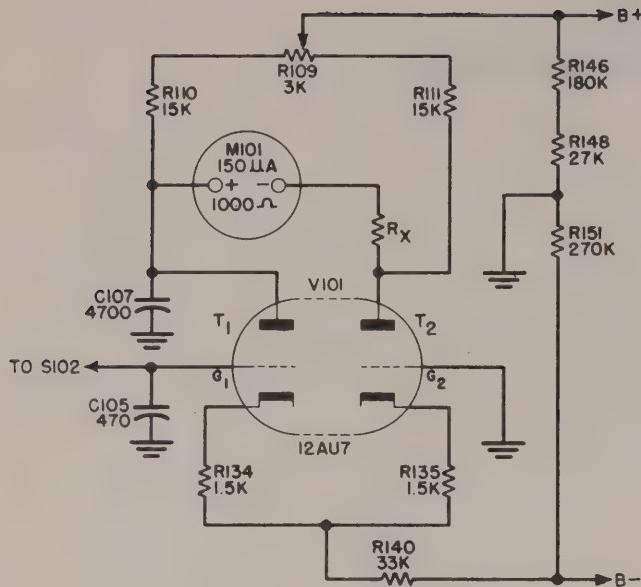

Figure 2-2. Basic Meter Circuit
a. METER CIRCUIT. (See Fig. 2-2)
Figure 2-2 illustrates the basic meter circuit used for all measurements except DC MILS and 0-1000 VOLTS AC. A twin-triode V101, type 12AU7, is electrically connected as shown. With no voltage on either grid, ZERO ADJUST control R109 is set so that the meter reads zero. In operation, one of the grids is always grounded and a voltage applied to the opposite grid. Assume a case where grid No. 2 is grounded and a negative voltage applied to grid No. 1. This will cause a decrease in current through triode
R_x as indicated in Figure 2-2, is an adjustable calibrating resistor. A separate potentiometer is used in place of R_x for calibration of AC volts RMS, AC volts peak-to-peak, DC volts and ohms measurements.